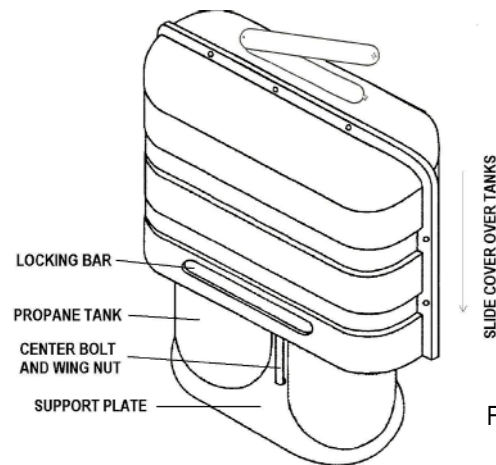

Figure 2
Step 3: Slide the propane tank cover over the tank(s) down to the support plate so that the locking bars are snapped tightly under the tank(s) (see Figure 2).